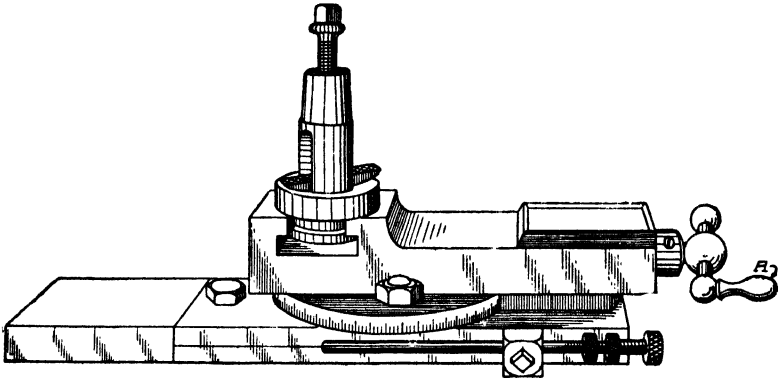

Fig. 43. Compound Tool Slide Rest
**Determining Amount of Taper.** In order to set the slide rest of the lathe at the proper angle for boring or reaming any degree of taper, measure the diameter of the circular rest-seat, Fig. 43, and